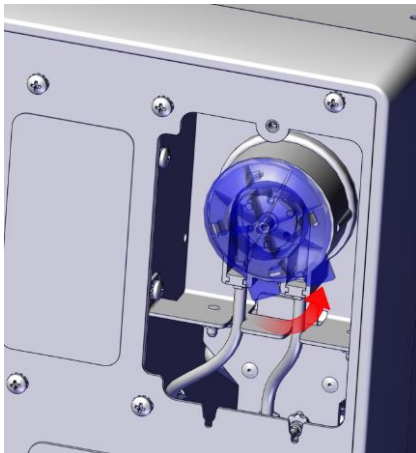
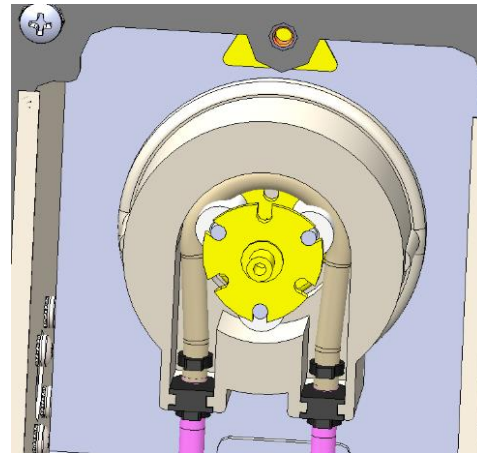

Figure 3A
Figure 3B
2. Remove the wash pump cap as shown. See Figure 3A and Figure 3B.